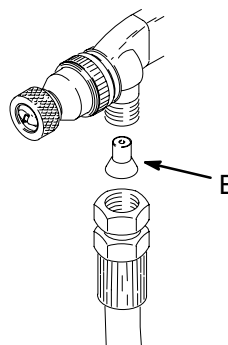

Fig. 3 04628
This accessory (E) restricts the flow of fluid to the gun when using thin materials. Install as shown in Fig. 3.